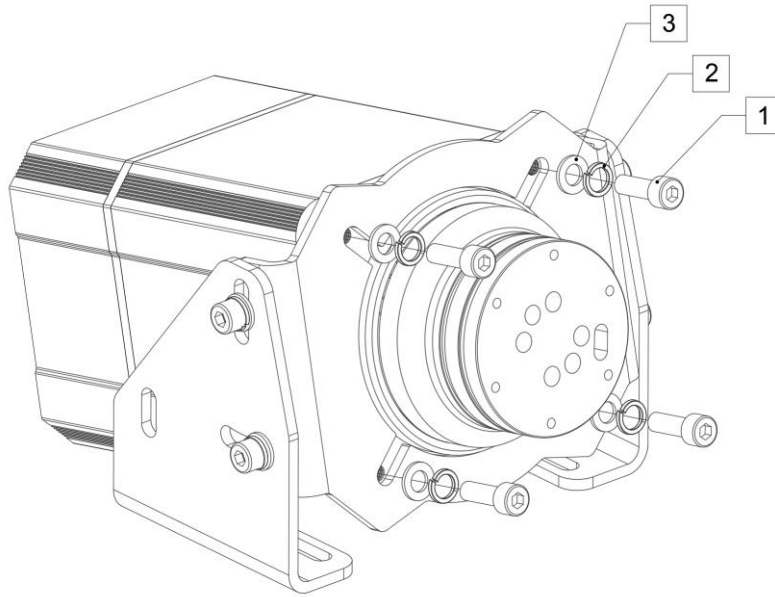

Figure 3. Mounting VNM Wheelbase using a mounting bracket
Wheelbase Premier, Elite, Supreme	are mounted with 4xM8 bolts length 25mm with 1,25mm thread pitch (1); 4xM8 spring washers (2) and 4 xM8 flat washers (3) in Figure 3.